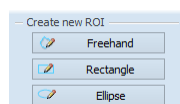

Figure 357 – Quantitative analysis drawing tools in tool tab
- Select an appropriate tool for the ROI definition in the **Create new ROI** section of the tool (see Figure 357).